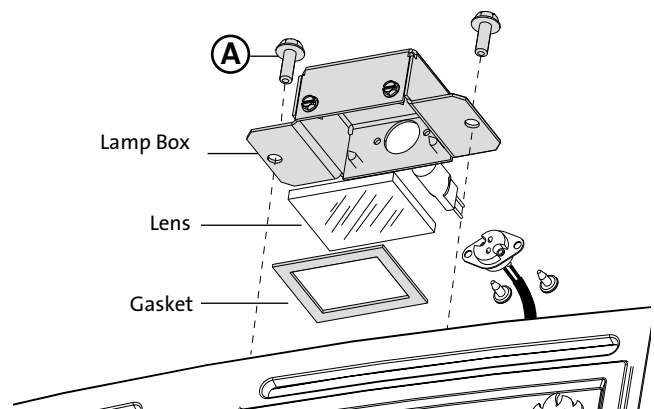
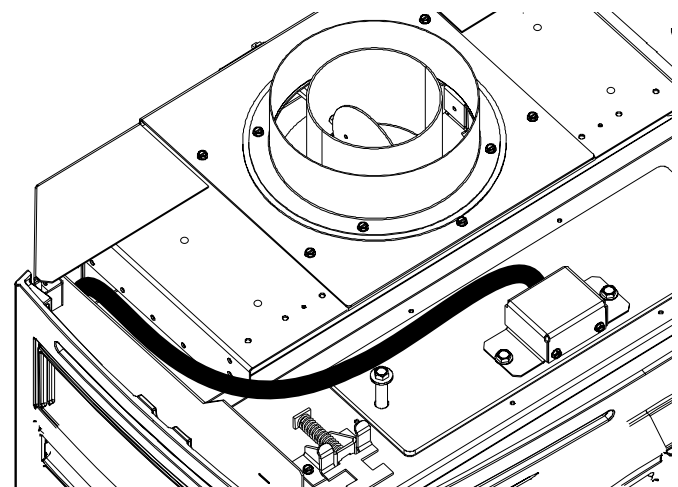

Figure 42. Accent Lamp installation.
Figure 43. Accent Lamp Harness routing.
2. Remove the two flanged hex head bolts (A) and cover plate from the Relief Panel using a 10 mm socket or wrench. See fig. 42.
3. Position the Gasket, Lens, and Lamp Box over the opening on the Relief Panel using the two bolts (A) previously removed.
4. Route the controls wire harness over and down between the back of the firebox and the rear shroud. **USE CARE TO AVOID CRIMPING THE WIRE HARNESS BETWEEN THE FIREBOX AND THE TOP CONVECTION SHROUD.** Connect the harness to the (L) terminal on the rear of IFC board. See figs. 43 - 44. *Loosen the IFC board wing nut and pull the board back to improve access to the terminal.*